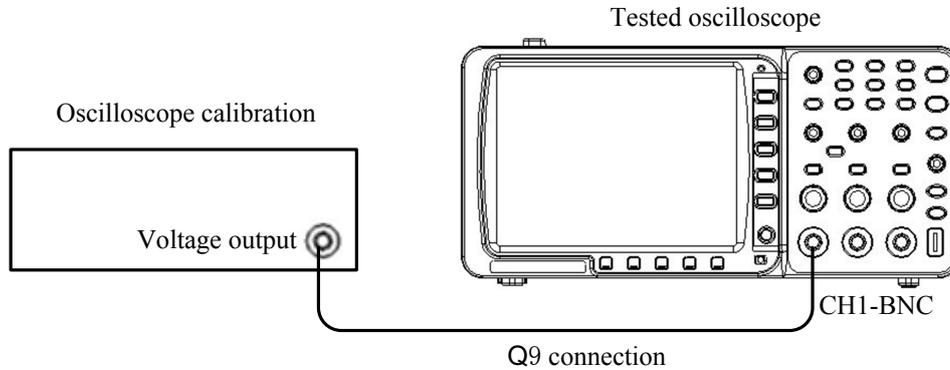

Figure 7: Connection of vertical movement range inspection
A. As shown by Figure 7 connected.